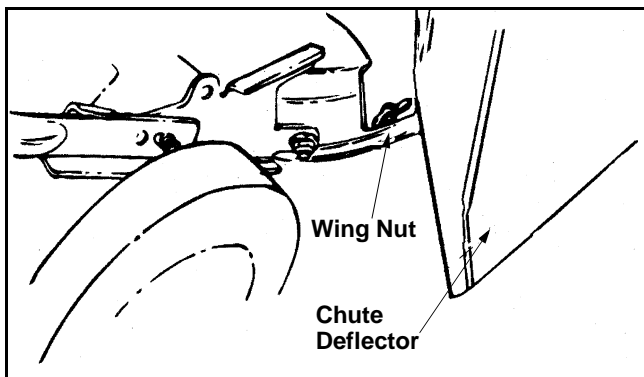

Figure 4
- Secure the back of the chute deflector in the same manner. See Figure 4.